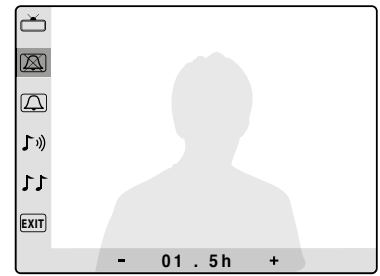
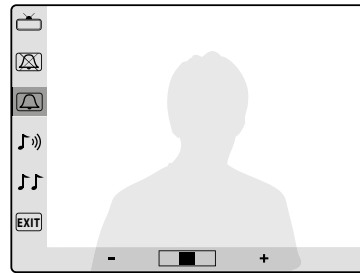
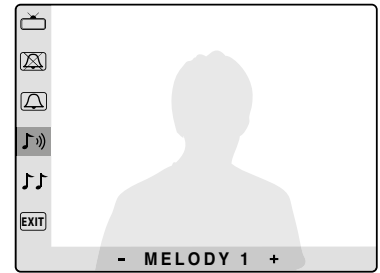

Fig. 5
Fig. 6
Fig. 7
4. Before installation of the module support frame, hook the modules **(G)** to the support frame **(H)** as shown in **Fig. 5** then, as shown in **Fig. 6**, fit the two anti-tampering locks **(W)** for each module (do the same for the second module support frame);
The second programming option is the **privacy duration (Fig. 5)** (from 0 to 20 hours):
Proceed in the same way for the other programming options: **call tone volume** (3 level, **Fig. 6**), **melody** (9 options, **Fig. 7**) and **number of rings** (for 1 to 9, **Fig. 8**).